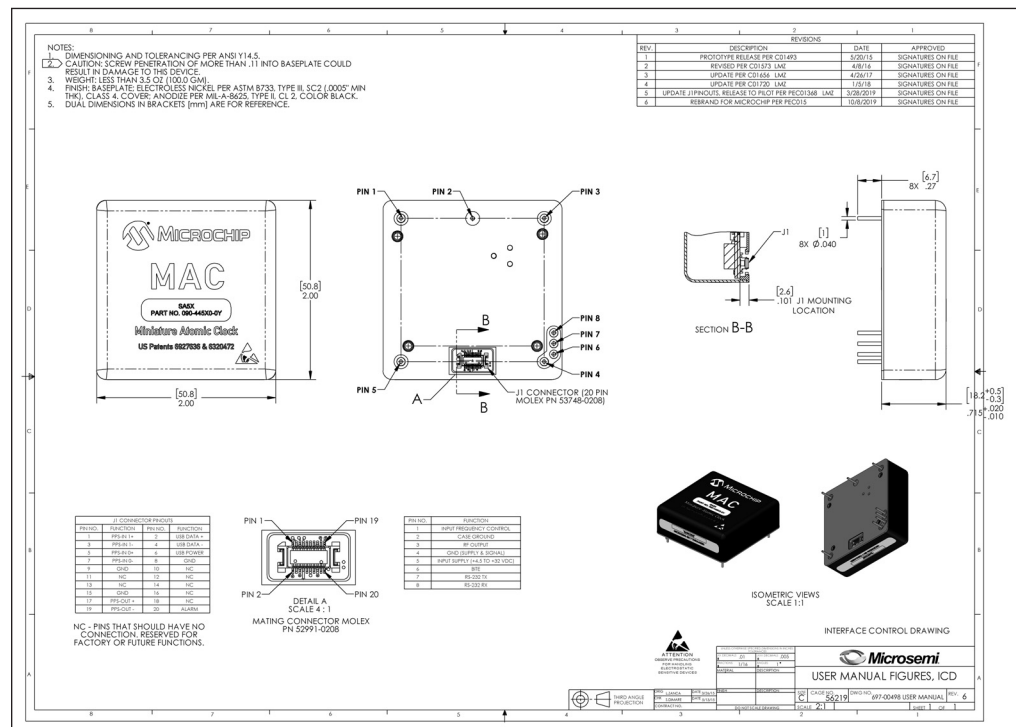

FIGURE 2-1: ICD 697-00498-000 for MAC.
See Figure 2-1 for a complete mechanical drawing.
To allow the highest ambient operating temperature for the SA5X, it is recommended that the bottom (baseplate) of the SA5X have good thermal contact with the mounting surface (no air gap between baseplate and external PCB/heat sink etc). To ensure good thermal contact, Microchip recommends that the SA5X is secured using (4) 2-56 screws. The location of the four screw holes is shown in Figure 2-1.